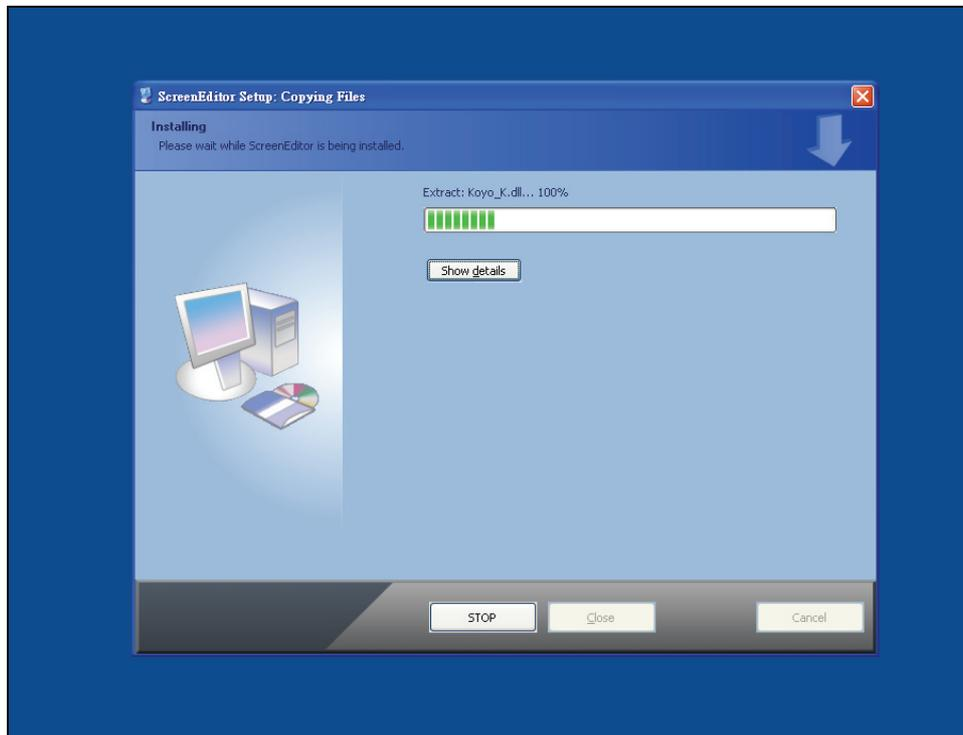

Fig. 2.1.5 Starting ScrEdit installation
4. Step 4: Then click **Install** button to start ScrEdit installation (Fig. 2.1.5).